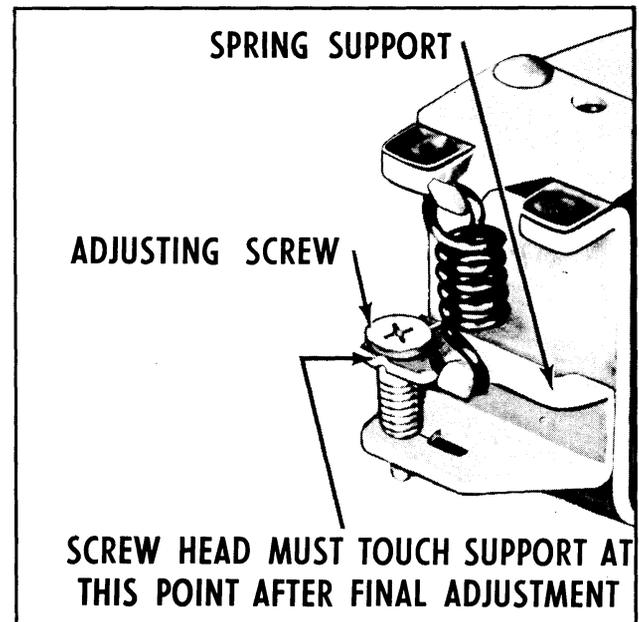

Fig. 13-10 Adjusting Voltage Setting
6. To adjust the voltage setting, remove the regulator cover and turn the adjusting screw. (See Fig. 13-10) Increase spring tension to raise the setting; decrease spring tension to lower the setting. Before taking the reading after each adjustment, replace the regulator cover as quickly as possible and cycle the generator. (The engine should be stopped while removing, and replacing the regulator